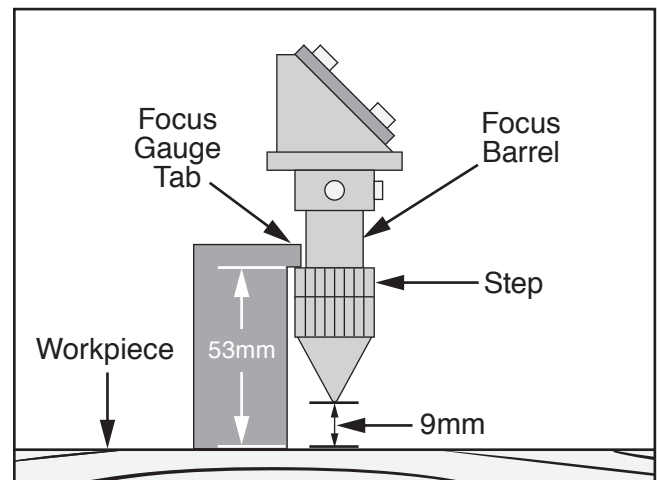

Figure 57. Focus gauge resting on workpiece and upper step of laser head focus barrel.
4. Place bottom of focus gauge on workpiece, and use Z-Axis crank handle to raise or lower table until tab on focus gauge rests on top of step on focus barrel, as shown in **Figure 57**.